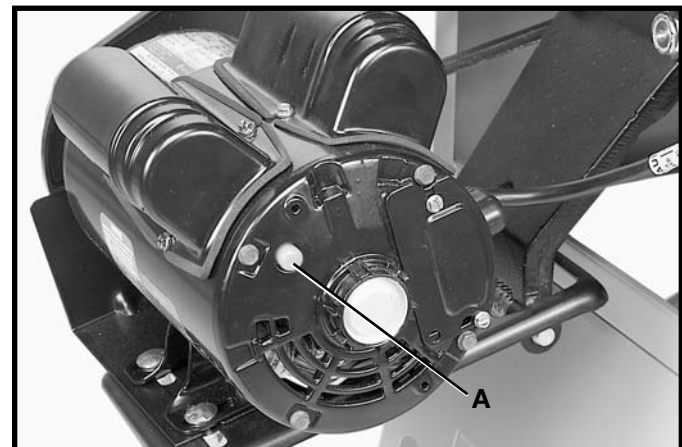

Fig. 97
The motor supplied for use with your saw is equipped with a reset overload relay button (A) Fig. 97. If the motor shuts off or fails to start due to overloading (cutting stock too fast, using a dull blade, using the saw beyond its capacity, etc.), or low voltage, turn the switch to the "OFF" position, let the motor cool three to five minutes, and push the reset button (A). The motor can then be turned on again in the usual manner.